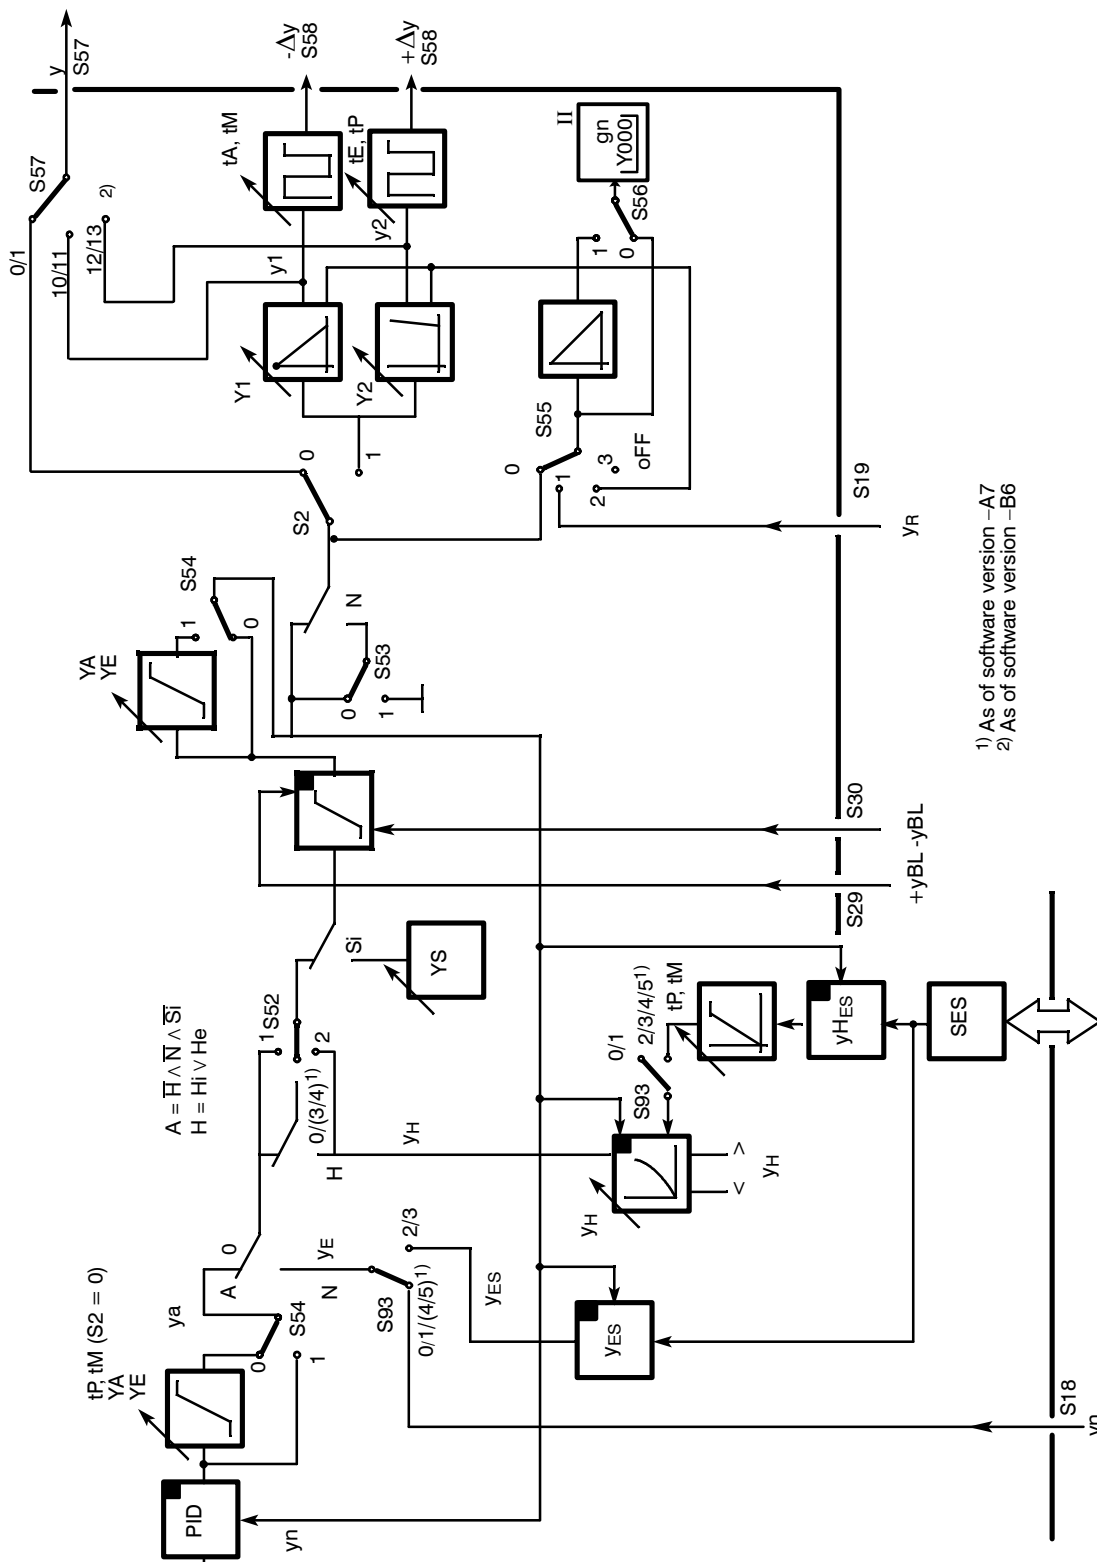

Figure 3-25 Block diagram K-controller S2 = 0 or two-position output S2 = 1
- **S2=0: Continuous (K) controller** (figure 3-24, page 103 and figure 3-25, page 104)
This output structure is identical to the K-output structure in its switching options (see figure 3-24, page103 and figure 3-25, page104).